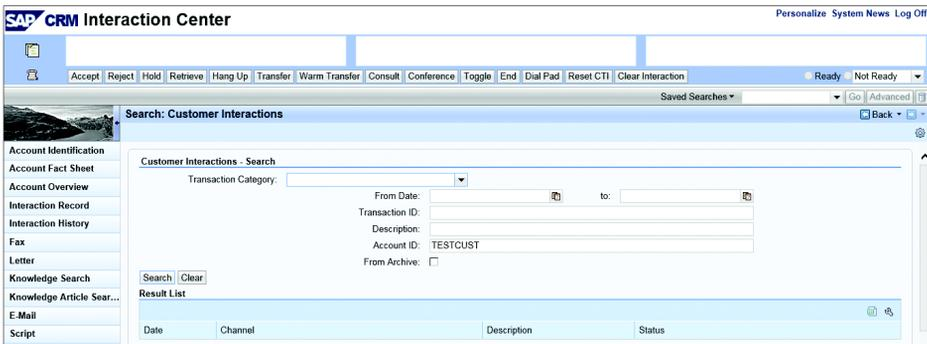

Figure 4.128 Customer Interaction Details
7. Click on the alert link, and it will take you to the **SEARCH: CUSTOMER INTERACTIONS** screen of the confirmed account. This will show the list of interactions for this customer (see Figure 4.128).